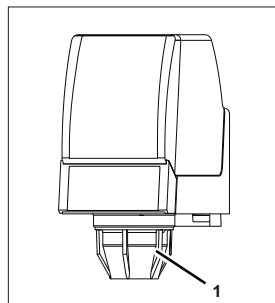

Fig. 14
2. Check that the dispensing nozzle is properly attached (Fig. 14/1).